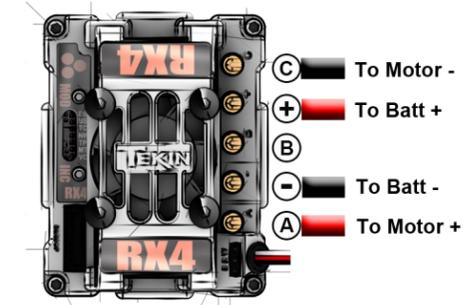

FIGURE 5.
The RX4 utilizes Tekin's D2™ Dual Drive Technology to auto detect sensors and drive brushless motors in the most efficient mode possible. D2™ uses the precise control of a full sensorless system with the efficiency of sensorless drive at higher RPM to deliver the ultimate in drivable horsepower. The RX4 also has the ability to run any brushed motor with no limit. Simply wire appropriately according to Figure 5, set the correct Motor Type and you're ready to drive.
For Brushed Wiring Configurations Refer To Figure 5.
1) Wiring: Forward/Reverse Wiring (Motor Types 5&6): Refer to Fig. 5, connect motor NEG (-) terminal to speed control (C) post, then connect motor POS (+) terminal to ESC (A) post. NOTE: Speed control (B) post is not used.